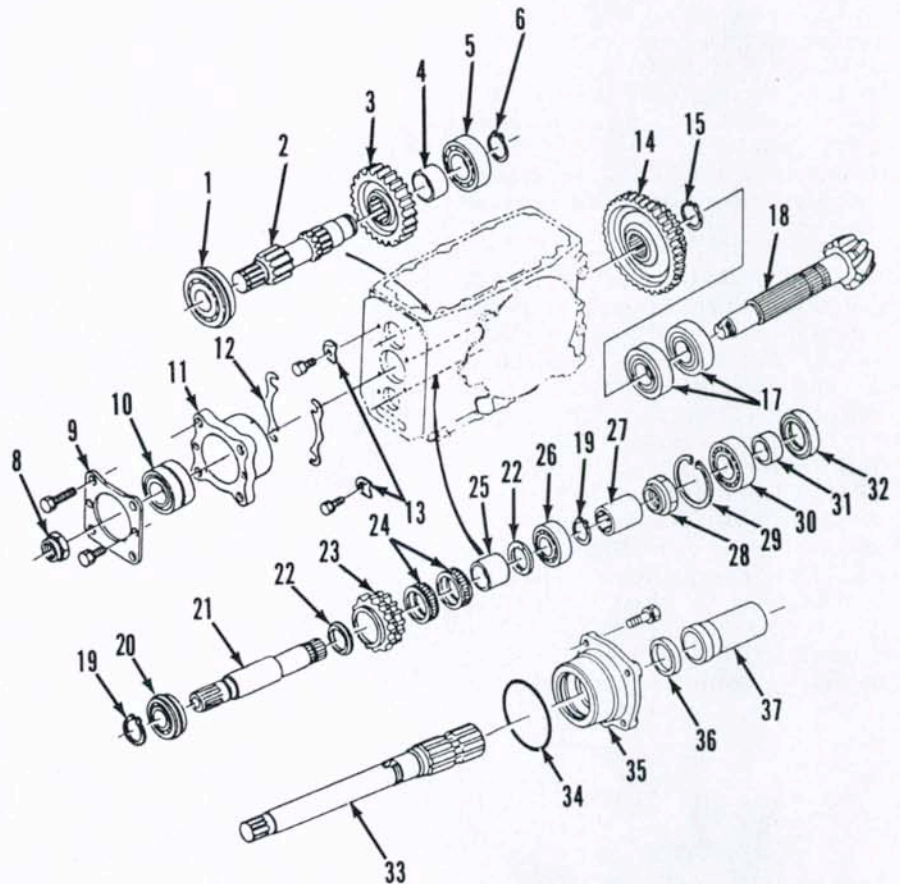
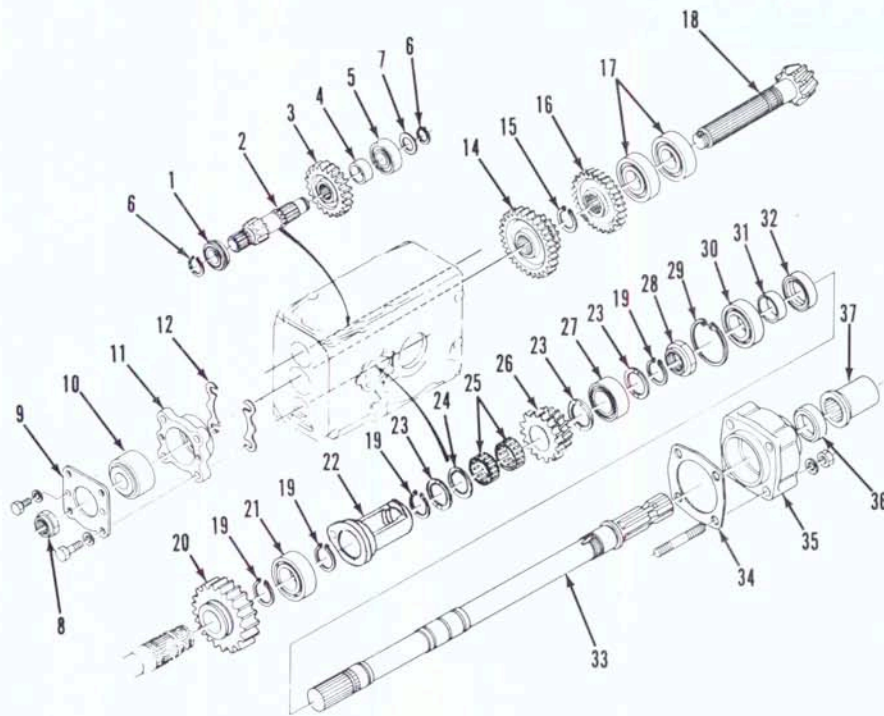

Fig. 118—Exploded view of gears and shafts located in rear transmission housing on Models L235 and L275.
Fig. 119—Exploded view of gears and shafts located in rear transmission housing on Model L355.
86. OVERHAUL. To disassemble rear transmission housing, proceed as follows: Remove differential lock shaft and shift fork. Remove bearing retainer from front of countershaft (2-Fig. 118 or 119) and snap ring (6) from rear of shaft. Tap shaft forward out of housing and lift out gear (3). Wedge a brass rod in ring gear teeth to lock bevel pinion shaft (18), then remove nut (8) from front of shaft. Remove differential bearing cases and lift differential assembly from rear housing. Be sure to retain shims with each bearing case for use in reassembly. Loosen shift rail set screw
ward and remove gears. Unbolt and remove front bearing (10) and bearing case (11). Retain shims (12) for use in reassembly. On Models L235 and L275, remove cap screws securing pto shaft bearing case (35-Fig. 118), then pull pto output shaft (33) and bearing case rearward as a unit from housing. Remove snap ring from rear of pto drive shaft (21) and bearing retainer (13) from front of shaft, then tap shaft forward out of housing. On Model L355, remove snap ring from front of pto output shaft (33-Fig. 119) and remove front bearing (21) with a suitable puller. Remove retainer (22), thrust washers (23 and 24), bearings (25) and gear (26). Remove bearing case mounting screws, then pull shaft and bearing case (35) rearward from housing. On all models, remove nut (28-Fig. 118 or 119) and snap ring (29), then press bearing case and bearing off shaft. Drive oil seal (32) out of case.
To reassemble rear transmission housing, reverse the disassembly procedure while noting the following: Use a new nut (28) on pto output shaft and tighten to a torque of 150-195 N·m (110-145 ft.-lbs.). Stake nut after tightening. Be sure oil groove of thrust washers faces gear (23—Fig. 118 or 26—Fig. 119). Bevel pinion shaft (18—Fig. 118 or 119)